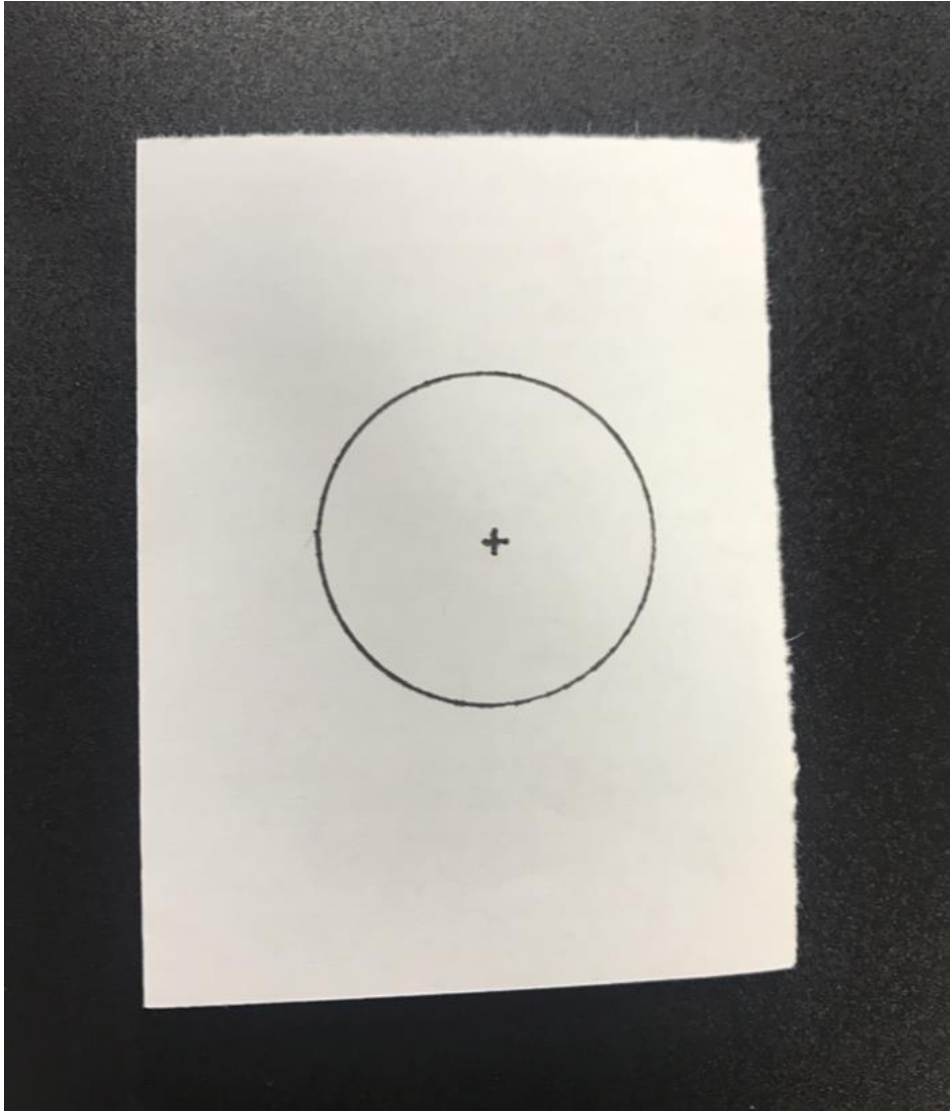

Figure 3.6 Put down a label on the conveyor
Step 1 Put down a label on the conveyor, as shown in Figure 3.6.